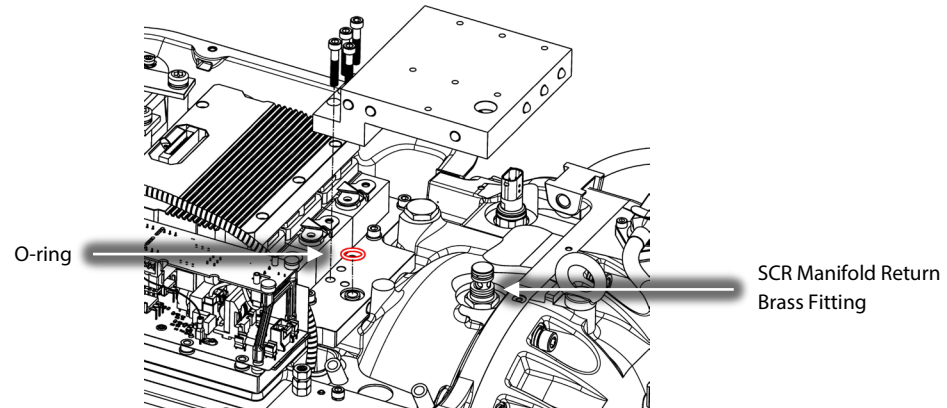

Figure 4 – SCR Cooling Manifold Removal
6. Carefully remove the SCR Cooling Manifold from the Compressor. Refer to *Figure 4 – SCR Cooling Manifold Removal* for this and the following removal steps.